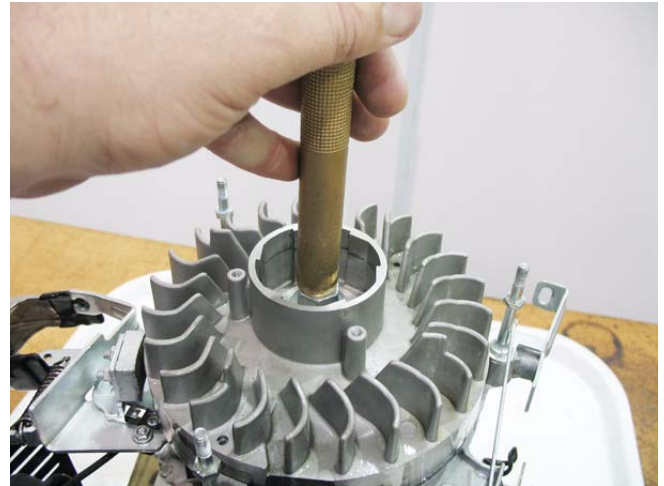

Figure 7.26
**NOTE:** Never strike the crankshaft directly with a hammer. To prevent damage to the crankshaft use a brass drift punch or a piece of wood between the hammer and the crankshaft. See Figure 7.26.